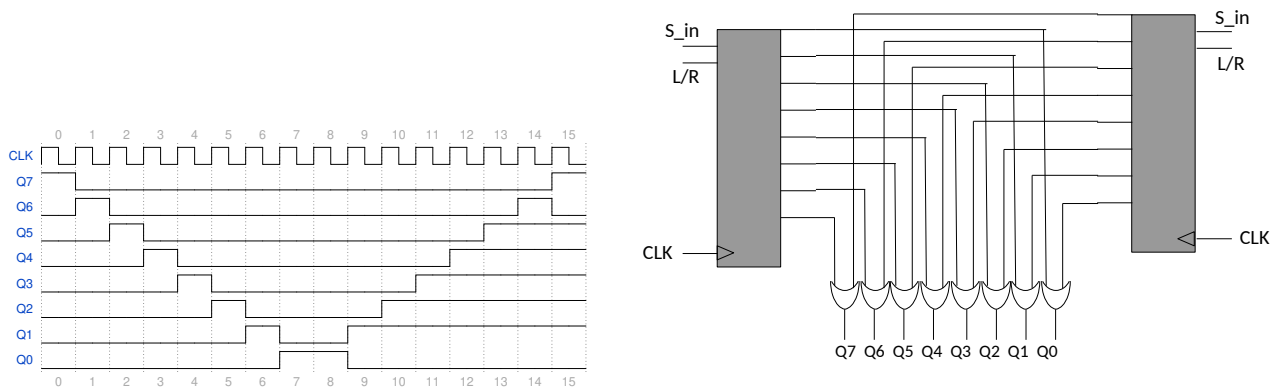
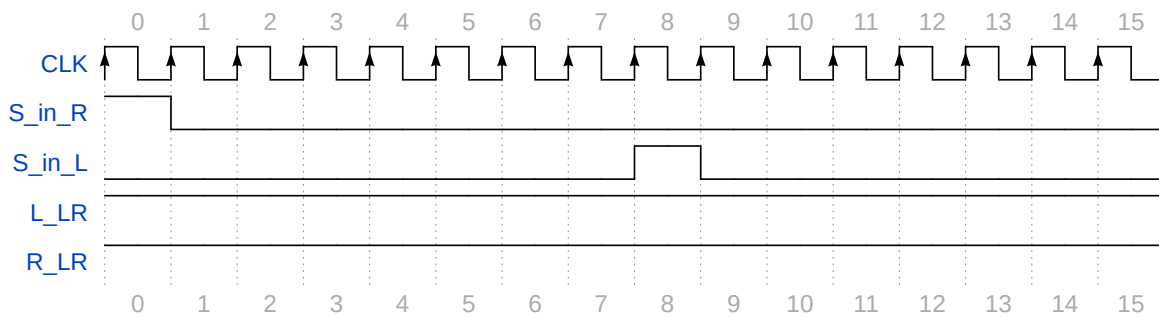

Figure 10: (Left) A waveform that repeats every 16 clock periods. (Right) One possible solution to Exercise 1.
Figure 11: A timing diagram corresponding to Fig. 10 (right).
1. Consider the timing diagram in Fig. 10. Using any combination of *shift registers* and supporting gates, create a circuit with 8-outputs that produces this timing diagram.
Fig. 11 contains a timing diagram corresponding to Fig. 10 (right). Two bi-directional shift registers are OR'd